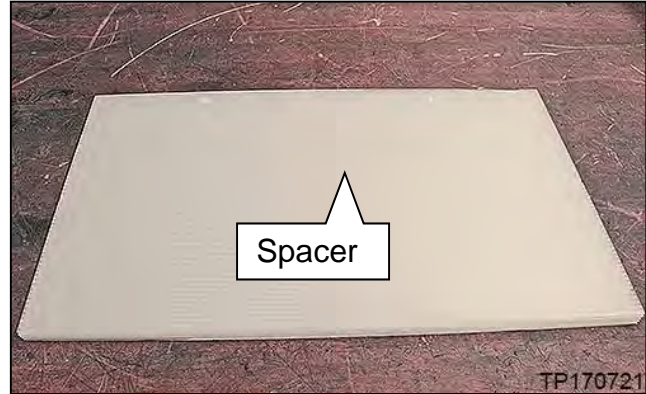
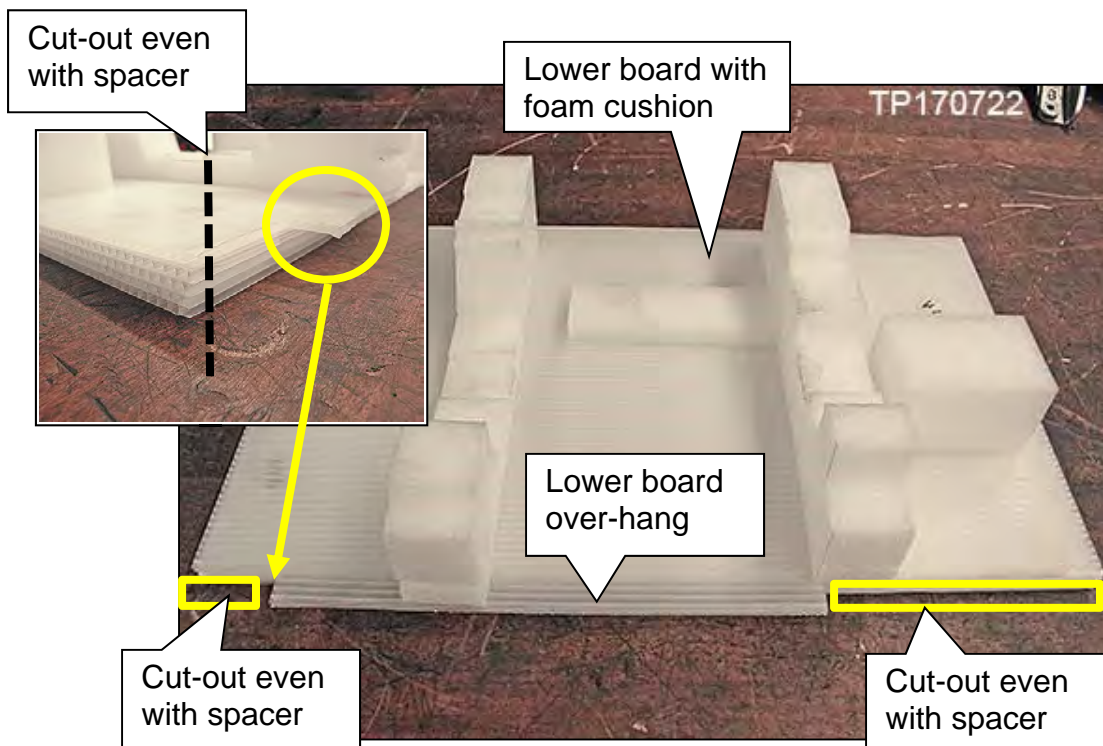

Figure 141
Figure 142
111. Take the lower board with foam cushion (lower board) out of the shipping box shown in Figure 142.
**HINT:** Step 112 is for kits that have a separate spacer (Figure 141). In later kits this spacer will be part of the lower board and step 112 will not be used.
112. Take the spacer (Figure 141) out of the shipping box and place on the work bench where the sub-assembly will be installed, and then place the lower board on top of the spacer as shown in Figure 142.